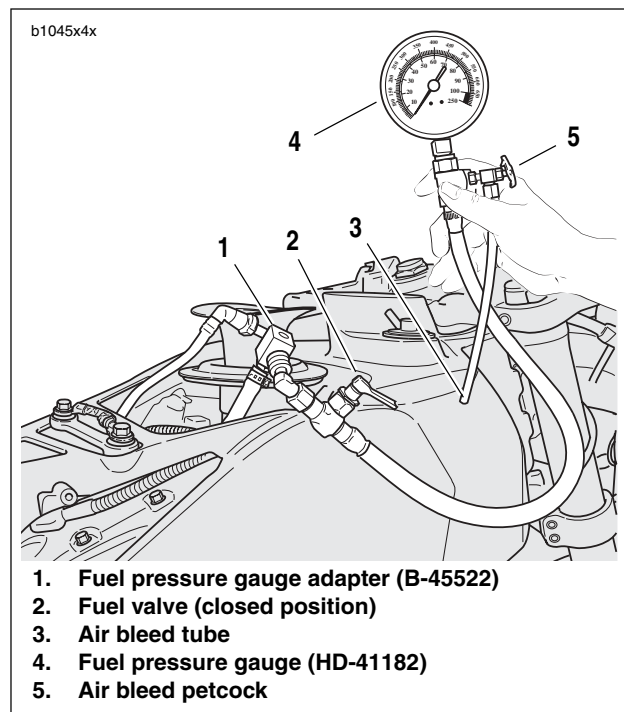

Figure 4-28. Fuel Pressure Gauge (Part No. HD-41182)
See Figure 4-28. Verify that fuel valve (2) and air bleed petcock (5) on the gauge are closed.
6. Attach FUEL PRESSURE GAUGE (Part No. HD-41182) (4) to fuel pressure gauge adapter (1).
8. See Figure 4-28. Pressurize the fuel system.
- b. Open fuel valve (2) on fuel pressure gauge to allow fuel to flow down the gauge hose.
- c. Position the air bleed tube (3) into proper container.
- d. Open and close the air bleed petcock (5) to purge the fuel pressure gauge and hose of air. Repeat this step several times until only solid fuel (without bubbles) flows from the air bleed tube.
10. See Figure 4-28. Turn engine off. Detach pressure gauge (4) from adapter (1).
- a. Open the air bleed petcock (5) to relieve fuel system pressure and purge the pressure gauge of gasoline.